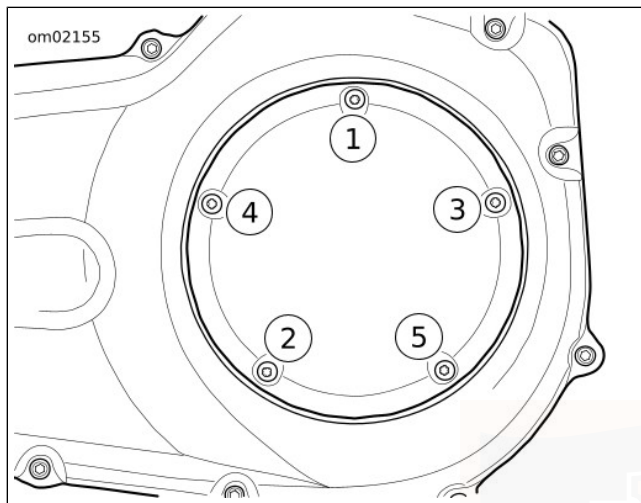

Figure 94. Clutch Cover Tightening Sequence
- c. Secure clutch inspection cover (2) with screws with captive washers (3).
- d. See Figure 94. Tighten in sequence shown to 84–108 **in-lbs** (9.5–12.2 N·m).